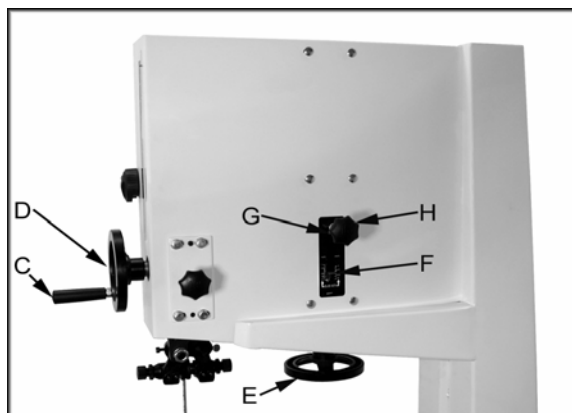

Figure 2
2. Turn blade tension hand wheel (E, Fig. 2) counter-clockwise to tension blade, and clockwise to loosen the tension. A gauge on the upper wheel slide bracket (F, Fig. 2) indicates the approximate tension according to the width of the blade. The JWBS-16B comes with a 3/4" blade so the tension should be set at 3/4" when using this blade.
3. If adjustment is necessary, loosen the wing nut (G, Fig. 2) at the top rear of the saw.
4. Adjust tracking by turning the knob (H, Fig. 2) in 1/4 turn increments. Rotate the wheel forward, and observe the position of the blade on the wheel. Rotating knob (H, Fig. 2) counter-clockwise should move the blade towards the front of the wheel. Rotating the knob clockwise should move the blade towards the back of the wheel.
6. Tighten the wing nut (G, Fig. 2).